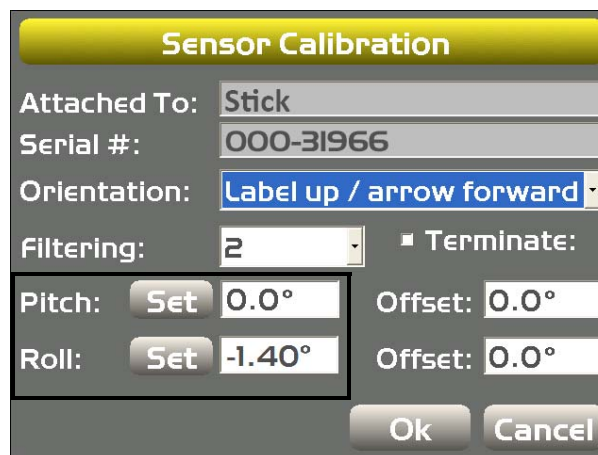

Figure 37: Set Stick Roll Value to Match Body Roll Value
8. Tap **Set** next to **Roll**, enter the stick roll value to match the body roll value, and tap **Set** again.(Figure 37); tap **OK** to continue.